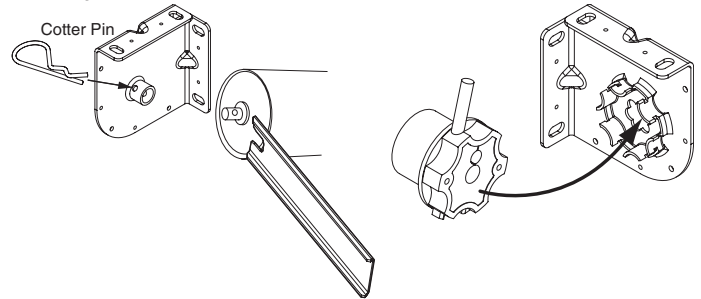

Figure 3
- ③ Using the included wrench, rotate the roller assembly idler pin so that the $\frac{1}{4}$ " hole in the shaft is aligned with the $\frac{1}{4}$ " hole in the idler end bracket (see Fig. 3).
- ④ Place spring-loaded idler pin into the idler end bracket.
- ⑤ Push the assembly toward the idler end to depress the spring-loaded idler, then insert the motor end of the roller assembly into the motor end bracket (see Fig. 3).
- ⑧ Insert the cotter pin through the idler end bracket and shaft (see Fig. 3).